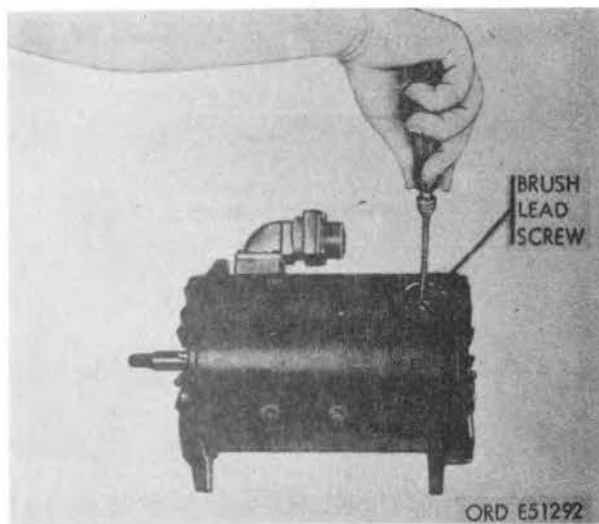

FIGURE 10. DISCONNECTING TERMINAL LEAD.
c. Refer to figure 10 and insert screwdriver through brush inspection plug hole and disconnect terminal lead and cable assembly by loosening brush lead screw and removing cable assembly from under screw.